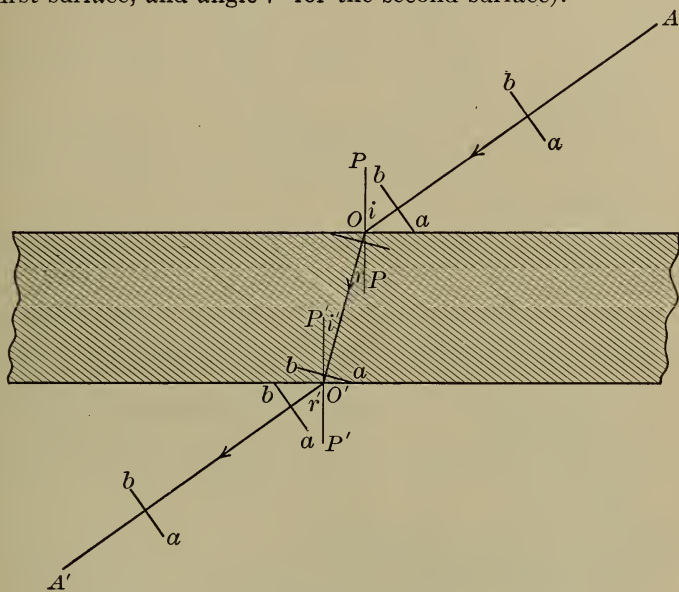

FIGURE 83.—DIAGRAM EXPLAINING REFRACTION OF LIGHT.
**125. Refraction Explained.** — Figure 83 shows a ray of light (*A*) passing from air, through a piece of plate glass, back into air.
**126. Meaning of Terms and Law of Refraction.** — In refraction, the *incident ray* is the ray before it strikes the refracting surface (*AO* for the first surface, and *OO'* for the second surface, Figure 83).